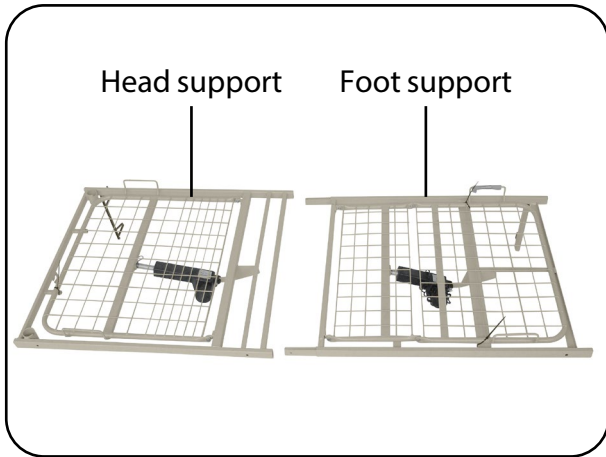

Fig. 4.03 – Bed surface halves with metal mesh
- 1 x head support (Fig. 4.03)
- 1 x foot support (Fig. 4.03)